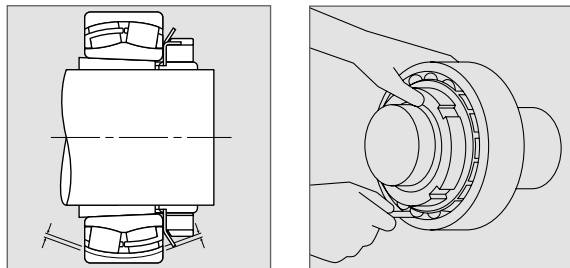

Fig. 2:
6. Further tighten the nut until the clearance has been reduced by the amount shown in the chart on pages 54/55 but when the bearing is mounted on the shaft the clearance should be checked under the rollers at the bottom of the bearing as shown in Fig. 2.